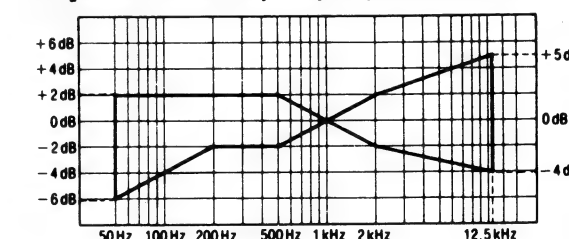

Fig. 18
5. Repeat steps 3 and 4 above for CrO₂ blank test tape (QZZCRX1) and Metal blank test tape (QZZCRZ5), in these cases raising the upper end of the test signal frequency range to 12.5kHz. Verify that the signal levels at the test frequencies fall in the ranges specified in Fig. 18 with respect to the reference signal level.